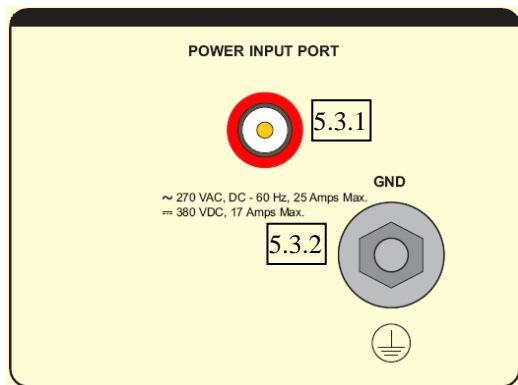

Figure 3: Rear Panel
*The LI-125C is based on the 50Ω/50 μH artificial mains network (AMN) circuit and component values (Figure 3) specified in ANSI C 63.4 – 2009 American National Standard for Methods of Measurement of Radio-Noise Emissions from Low-Voltage Electrical and Electronic Equipment in the Range of 9 kHz to 40 GHz*